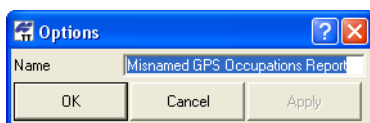

Figure 7-37. Item Options – Misnamed GPS Occupations Report
- Misnamed GPS Occupations Report – edit the name and click **OK** (Figure 7-37).